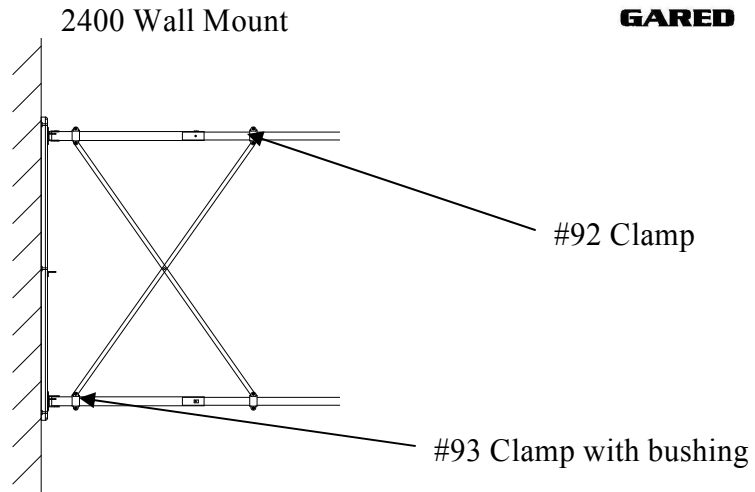

Figure 6. Cross bracing example.
- 12) A 1.9"O.D. cross brace tube is provided, this is installed on the upper set of extension tubes about 3" or so from the bank end of the inner tube with (2) #105 T-clamps.
- 15) To further brace the unit, the strap bracing should be installed on the lower extension arms. To complete this, the #93 clamps with bushings should be attached to the outer extension pipes. On the inner pipes, as close to the outer pipe as possible, attach #92 clamps. Before tightening down the carriage bolts, install the strap bracing on each clamp (as shown in Figure 6). Secure the two braces together with a hex bolt and lock nut.